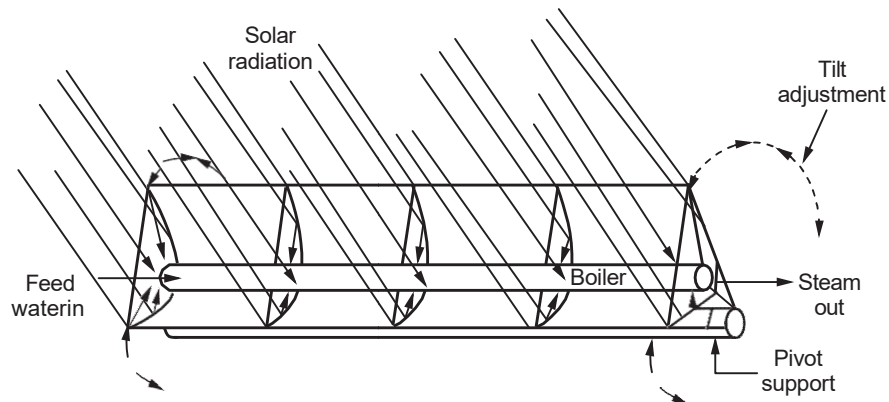

Fig. 2.16.2 Concave solar energy collector focuses sun's rays on boiler at focal point
- Fig. 2.16.2 shows a concave solar energy collector focusing sun's rays on boiler at a focal point.